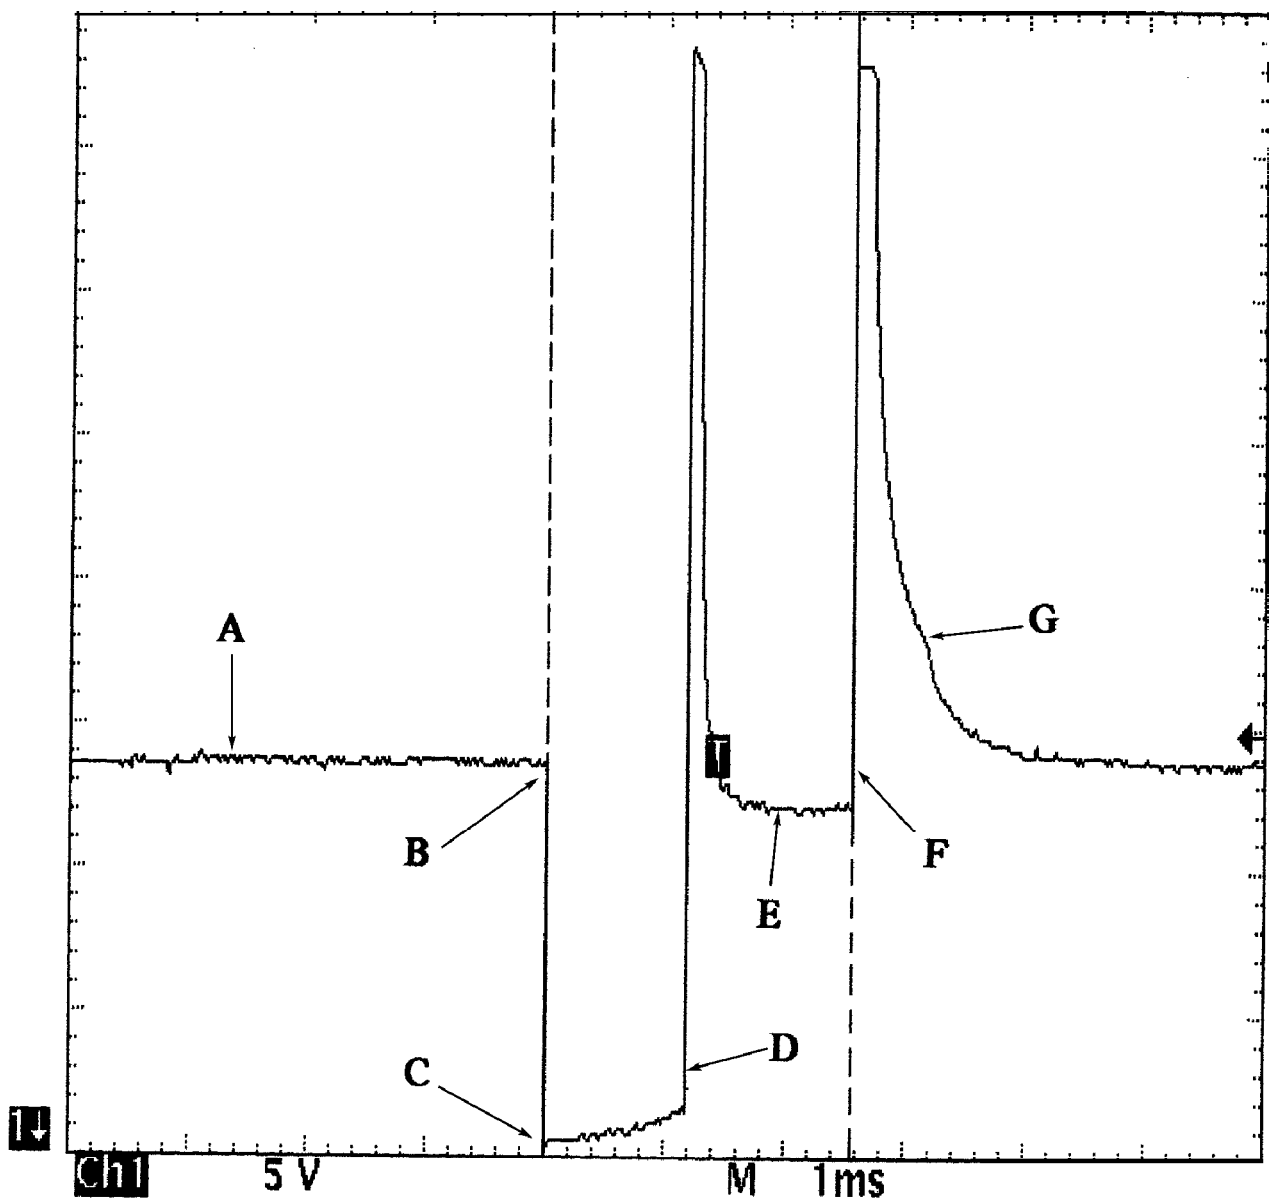

Fig. 3: Identifying Current Controlled Type Injector Pattern
* See Fig. 3 for pattern that the following text describes.